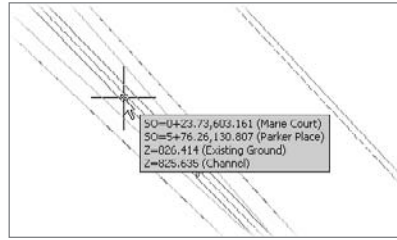

Figure 12.22
6. Click OK to close the dialog, and the channel will now have contours displayed along its length. You can also pause over the channel area, and your tooltip should reflect elevations for both the existing ground surface and the channel surface. (See Figure 12.22.)